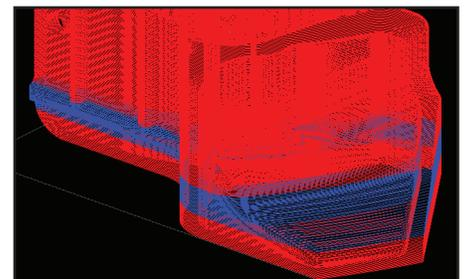

Figure 59: Select the curves in the area of gradual slopes (blue) and apply custom group.
5.5.3. Add curves to custom group (Figure 59).